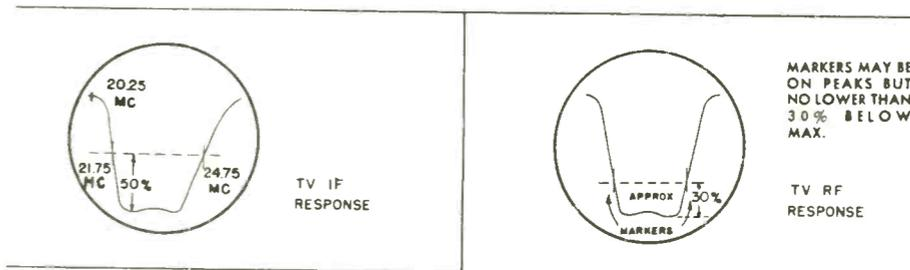
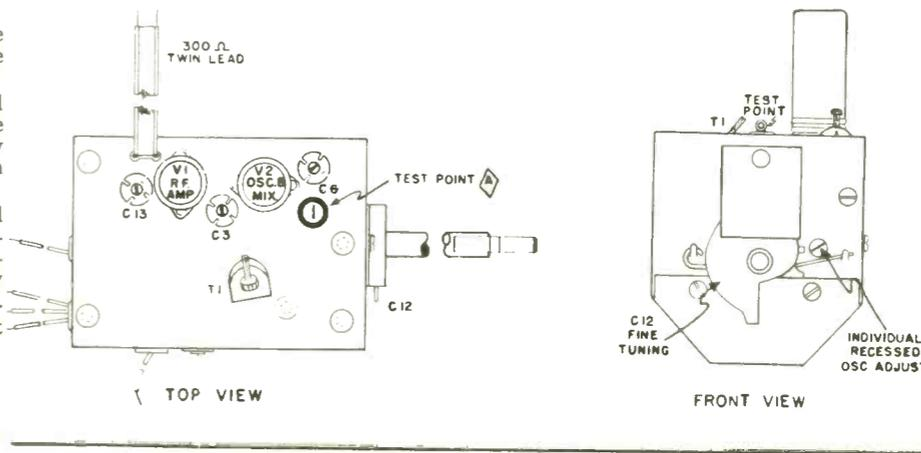

FIG. 15. RECOMMENDED RESPONSE CURVES
FIG. 16. R.F. TUNER ADJUSTMENT POINTS (STANDARD COIL CASCODE TUNER)
13. Feed I-F Sweep, and observe response on scope. (See Fig. 15.) Use marker frequencies 20.25, 21.75 and 24.75 MC.
14. If response does not approximate that shown in Fig. 15, repeat steps 4 to 9, making sure that frequencies are precise, and that the Signal Generator output voltage is kept low. Continue with steps 10 to 13. A slight touch-up of individual slugs may be required to approximate the recommended curve of Fig. 15.
3. Connect vertical amplifier of Oscilloscope through a 10,000 ohm ½ w. resistor to Test Point (A) fig. 16.
7. Observe response curve on Scope. If necessary adjust C3, C6, or C13 (See fig. 16) so that response curve corresponds approximately to that shown in fig. 15 and has maximum gain.